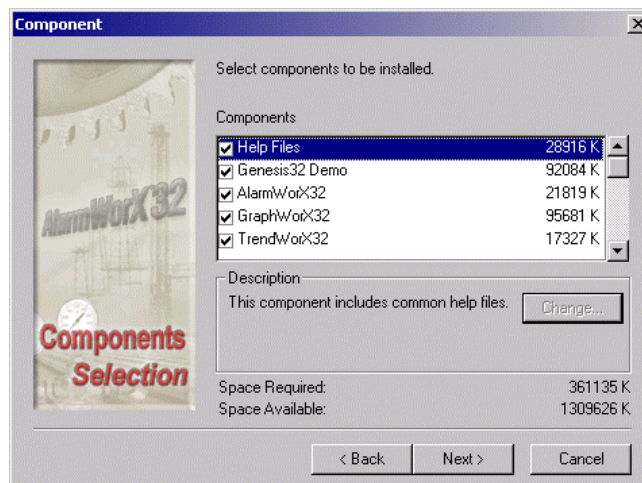

Figure 2.18
8. In the **Component** window shown in **Figure 2.18**, you may choose to selectively install GENESIS32 components. For the purpose of training, please check and install all components. Please verify available disk space before proceeding.